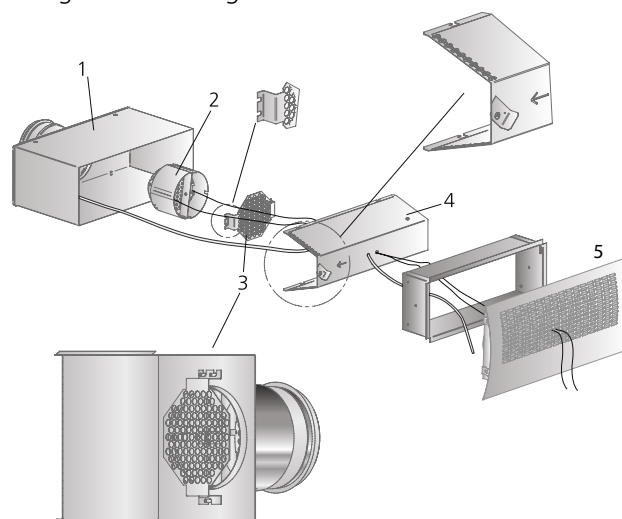

Figure 1. Installation.
The air diffuser section is equipped with a number of air distribution discs. By dismantling the air diffuser section from the wall, you can access these discs to reset them on the rear side of the air diffuser section, see Figure 1. The air distribution discs can be pivoted through 360° for directing the air to suit your needs.
4. The assembly and dismantling of the component parts are shown in Figure 1.
5. Press the diffuser face to engage it in the mounting frame. See Figure 1.
Commissioning must be carried out after the diffuser has been mounted and completely assembled. Pull the measuring tubes and damper adjustment cords out through the diffuser face. Connect a manometer to the measuring tubes. The desired commissioning pressure can be computed by applying the K-factor (rated coefficient of performance) of the air diffuser. Set the damper to the correct blade position, tie a commissioning knot in the damper cords to indicate the damper position. See Figure 1.
The air diffuser can be cleaned, if necessary, using luke-warm water with dishwashing detergent added or by vacuum cleaning using a brush nozzle. The duct system can be accessed after the air diffuser section has been removed, the acoustic baffle has been withdrawn, the air distribution discs have been moved to the side and the damper has been turned and withdrawn from its fastener from the inlet. See Figure 1.